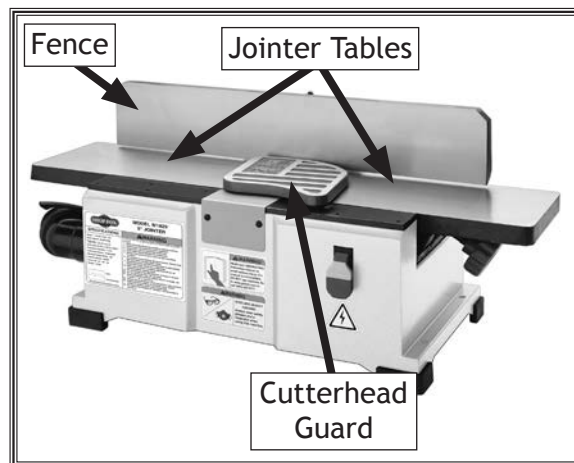

Figure 14. Fence positioned over the jointer tables.
- Slide the fence forward until it contacts the cutterhead guard and the cutterhead guard completely covers the cutterhead, as shown in **Figure 14**.